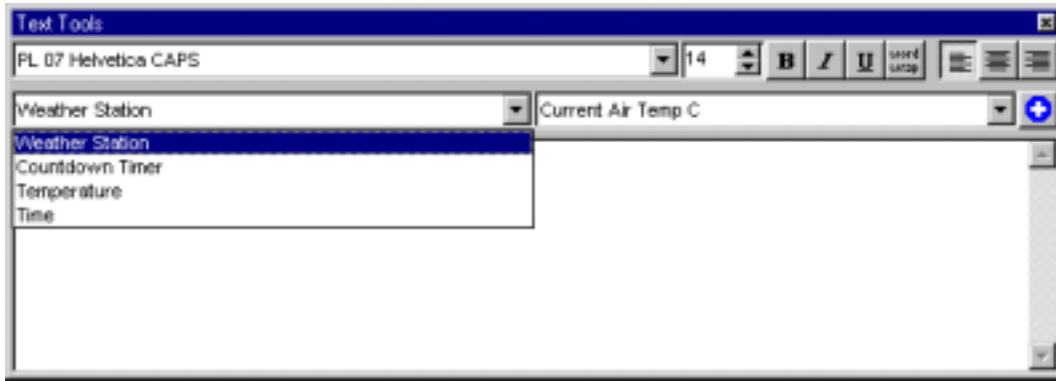

FIGURE 5.3-2. The available options provided by the source menu are shown.
3. Select a source from the Source pull-down menu (Figure 5.3-2).